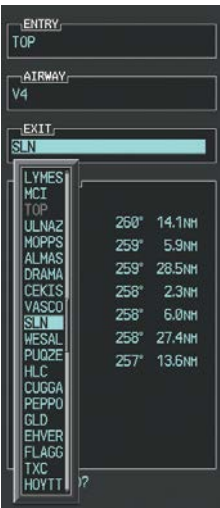

Figure 5-116 List of Available Exits for V4
h) Press the **ENT** Key. The list of available exits for V4 is now displayed as in Figure 5-116.
- i) If necessary, turn either **FMS** Knob to select the desired exit. In this case Salina VOR (SLN) is selected as in Figure 5-116.